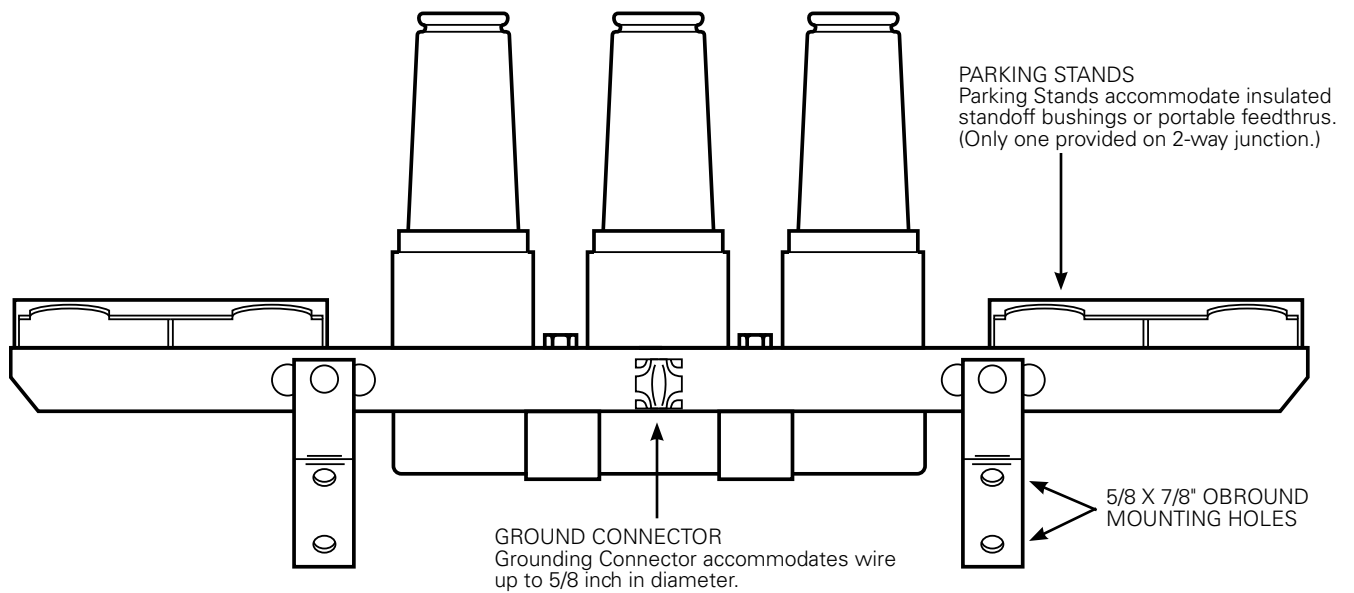

Figure 2. Pivot support/mounting feet assembled to frontplate.
- Loadbreak Junction with Frontplate (assembled). See Figure 2.
- Using supplied 5/16" hardware, loosely attach adjustable mounting bracket to back of frontplate and place assembly against the mounting surface in desired orientation (Figure 2).